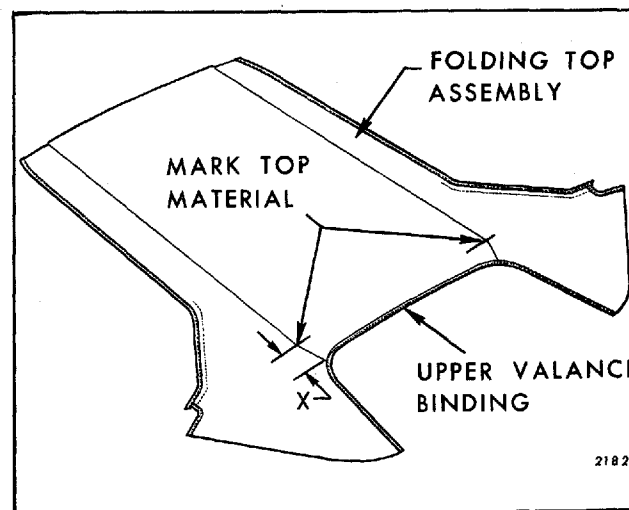

Fig. 6-22—Marking Top Material
22. Using a pencil, mark top material (mark should be approximately 1/2" in length) at deck seam 5-1/4" on "B & C" and 4-1/4" on "A & Z" Styles from edge of top material upper valance binding. (See dimension "X" in Fig. 6-22)